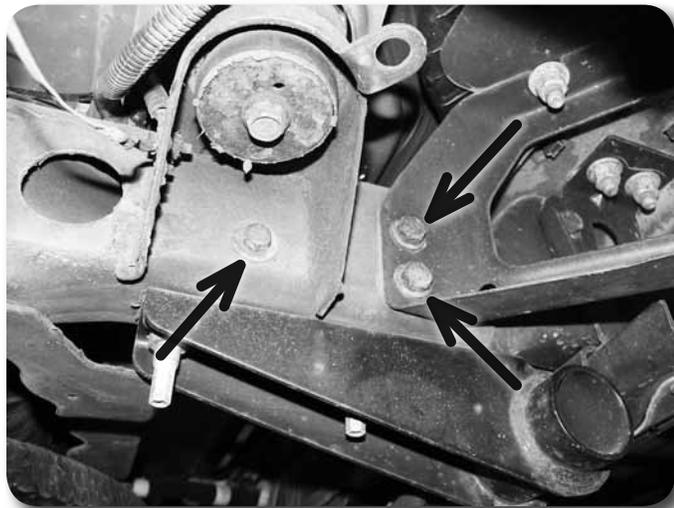

Figure 17
27. Remove the three outer bumper bracket bolts and one bottom mounting bolt (closest to the rear) on both sides **Figure 17**. If equipped, remove the two bolts mounting the bumper to the receiver and remove the bumper from the vehicle. Save all hardware.